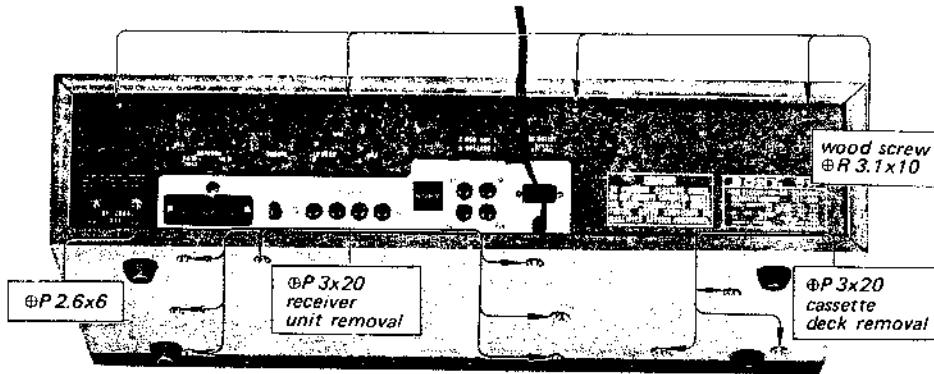

Fig. 2-2 Cassette deck removal
1. Remove the six screws at the rear hardboard, two of them ($\oplus P 2.6 \times 6$) secure the ATT switch, and the four others (wood screw $\oplus R 3.1 \times 10$) secure the hardboard to the wooden case as shown in Fig. 2-2.
2. Remove the three screws ($\oplus P 3 \times 20$) securing the cassette deck from the bottom as shown in Fig. 2-2. This frees the cassette deck.